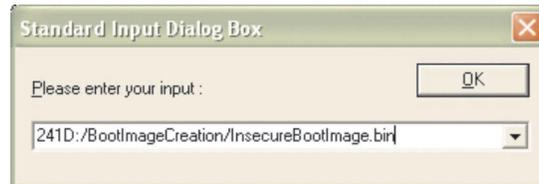

Figure 17. Input Dialog Box
9. Enter 241:<BootImageCreation Folder>\InsecureBootImage.bin and press OK in the popup window shown in Figure 17.